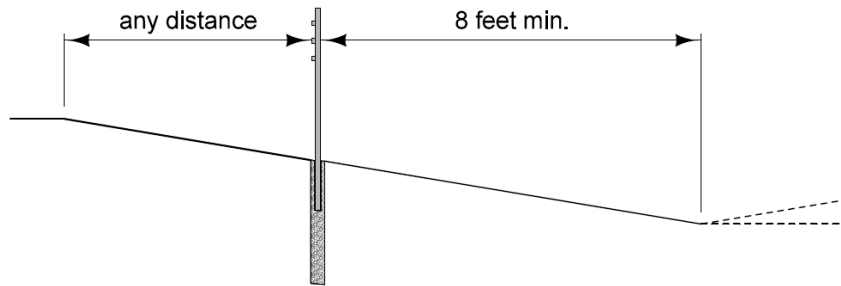
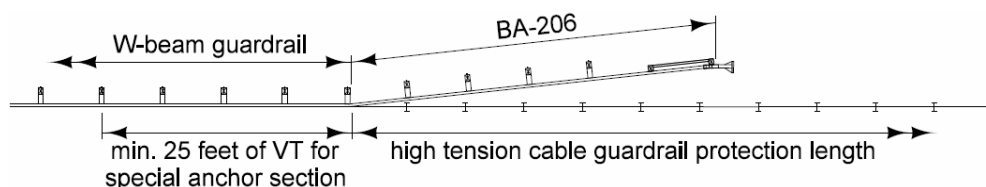

Figure 1: High tension cable guardrail placed on slopes 6:1 or flatter.
Figure 5: High Tension Cable Guardrail to Steel Beam Guardrail connection.
- On slopes 6:1 or flatter, the high tension cable guardrail can be located any distance from the foreslope breakover, see Figure 1. However, it cannot be placed any closer than 8 feet from the breakover at the bottom of a ditch, see Figure 1.
Unlike steel beam guardrail, high tension cable guardrail cannot be anchored to a rigid object like a concrete barrier or a bridge rail end section. Instead, a crossover from high tension cable to steel beam guardrail is required. This is done using the BA-206, which in turn is connected to a tangent section of W-beam, see Figure 5 below.
4/29/2019	Revised Revised Figure 5 to more closely match end treatment being installed.
3/31/2016	Revised Modified Figure 1 and first two bullets on page 1. According to NCHRP Report 711, high tension cable can be placed at any distance on 6:1 or flatter slopes. Eliminated third bullet on page 1. All approved systems are TL-4, so no Estimate Reference Note is needed. Added information and Figure 5 to high tension cable to W-beam connection discussion.